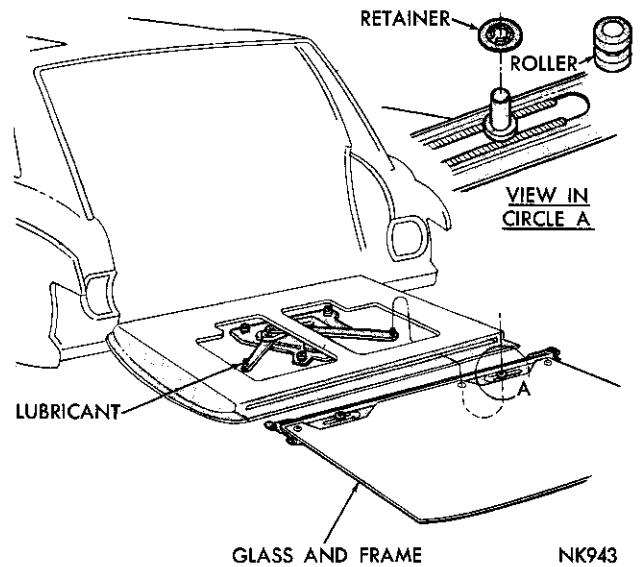
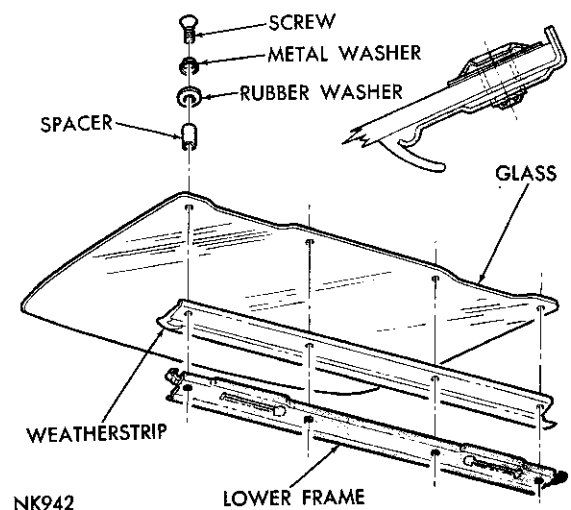

Fig. 113—Tail Gate Glass Replacement
Fig. 114—Tail Gate Glass Attachment
(1) With the tail gate open, remove the trim panel.
(2) Remove the retainers (Fig. 113) from the ends of the regulator arm studs.
(3) Remove the regulator arm studs from the rollers in the glass lower frame.
(4) Remove the tail gate glass assembly from the tail gate.
(5) Remove the rollers from the glass lower frame.
(6) Remove the washers, spacers and screws attaching the glass lower frame and weatherstrip to the glass (Fig. 114) and remove the frame and weatherstrip.